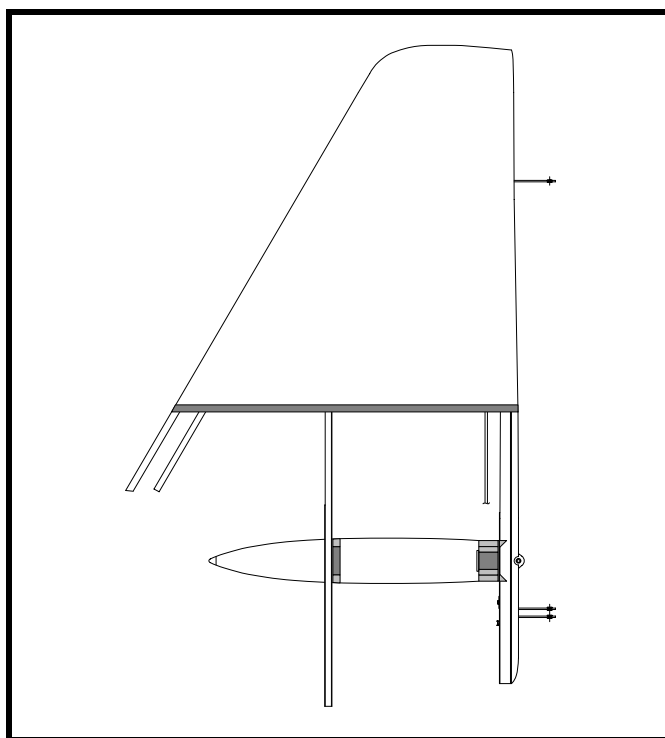

Figure 11
- ❑ Glue the fin spars to the horizontal stabilizer spars. See Figure 11.